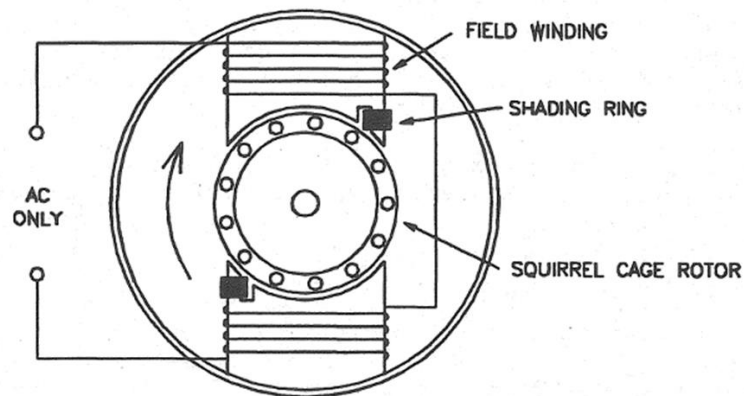

Figure 1 - Typical shaded pole field system with shading rings
2. Most shaded pole motors have either two or four magnetic field poles. Each magnetic pole is formed by a wound field coil and is slotted at one end to accommodate a single short-circuited turn of copper or aluminium, known as a 'shading ring'. A typical arrangement is shown in Figure 1.